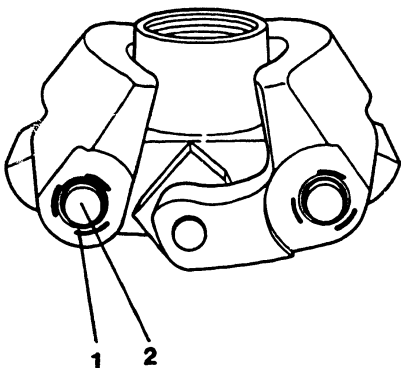

Fig. 45 Flyweight pin section
- 1. When the clearance between the flyweight pin and the bushing is excessive due to wear, replace the flyweight assembly. (Fig. 45)**